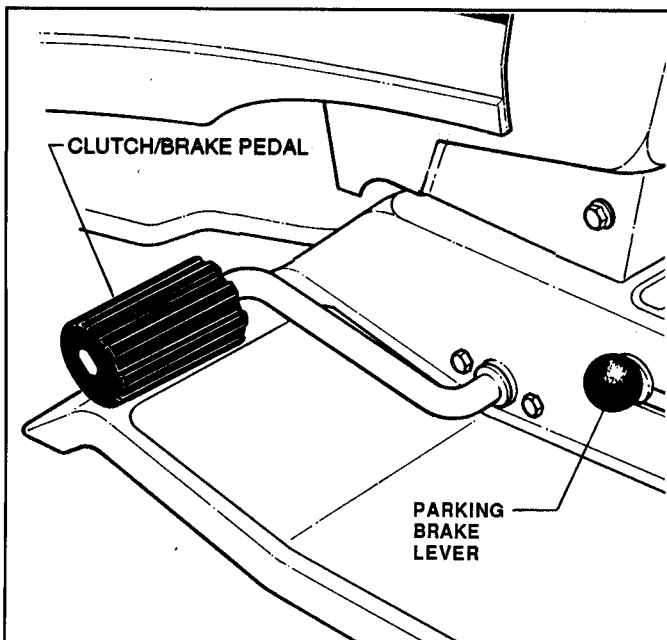

FIGURE 3
**WHEEL DRIVE:** *STOP FORWARD MOTION* of mower by pushing CLUTCH/BRAKE PEDAL all the way down. See Figure 3.